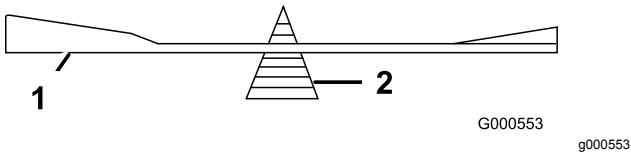

Figure 104
2. Check the balance of the blade by putting it on a blade balancer (Figure 104).